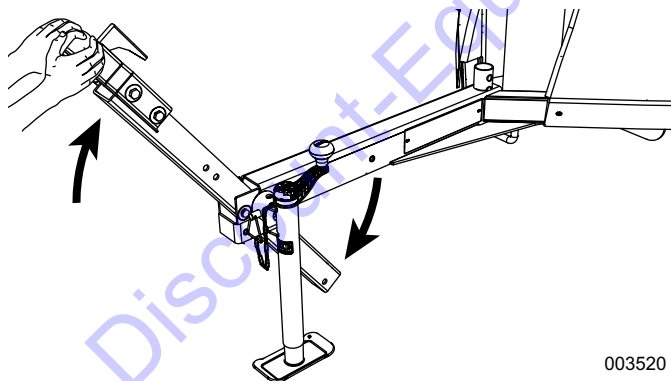

Figure 2-8. Pivot Trailer Tongue Into Storage Position
4. See Figure 2-8. Pivot trailer tongue into storage position.